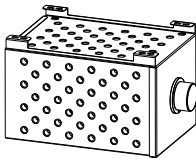

Fig. 9:
- For an exhaust into the room, we offer a diffuser (Fig.9), which reduces the air velocity and outflow noise. This can be installed in a suitable position and can also be connected via a  $\varnothing$ 75mm pipe. Dimensions: 450x300x300 mm